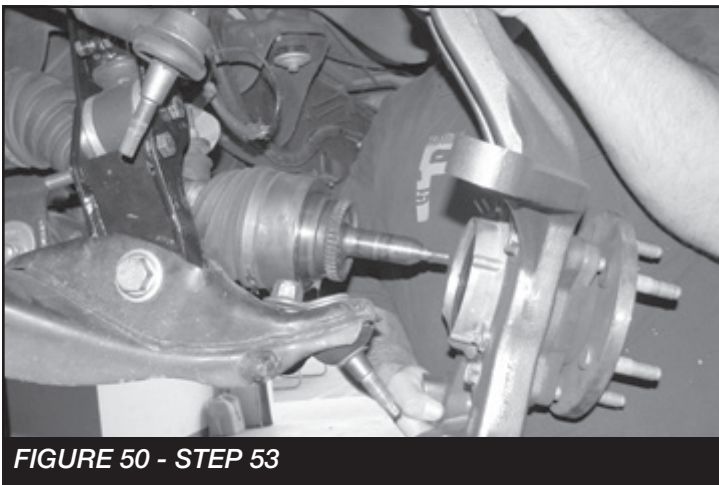

FIGURE 50 - STEP 53
53. Install the Fabtech knuckle onto the upper and lower control arms. Torque the upper ball joint to 85 ft-lbs and the lower ball joint to 110 ft-lbs. **SEE FIGURE 50**